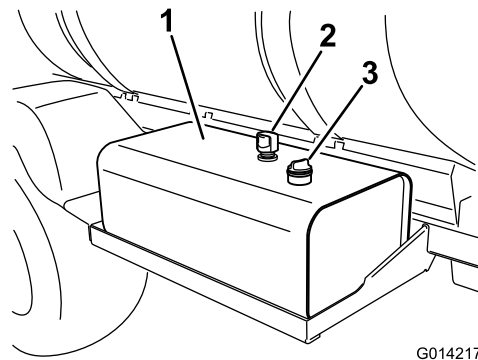

Figure 98
2. Clean the area around the hydraulic-fluid-tank dipstick cap and remove it (Figure 98).